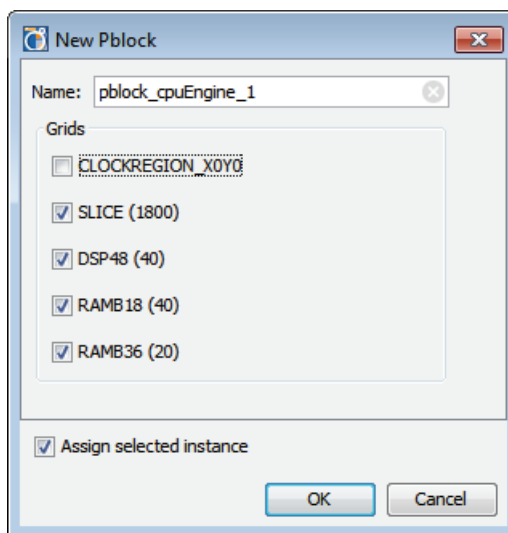

Figure 10-7: Set Pblock Dialog Box to Confirm Pblock as Clock Region
- In the **Set Pblock** dialog box, as shown in Figure 10-7, page 308, select **OK** to define the Pblock range as the clock region (CLOCKREGION_X).